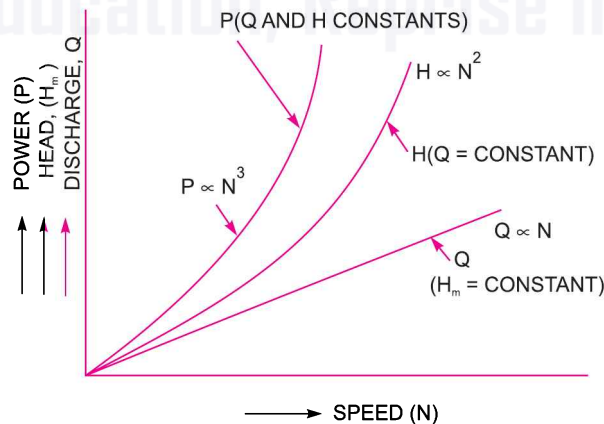

Fig. 19.14 Main characteristic curves of a pump.
**19.10.1 Main Characteristic Curves.** The main characteristic curves of a centrifugal pump consists of variation of head (manometric head,  $H_m$ ), power and discharge with respect to speed. For plotting curves of manometric head *versus* speed, discharge is kept constant. For plotting curves of discharge *versus* speed, manometric head ( $H_m$ ) is kept constant. And for plotting curves of power *versus* speed, the manometric head and discharge are kept constant. Fig. 19.14 shows main characteristic curves of a pump.
For plotting the graph of  $H_m$  versus speed ( $N$ ), the discharge is kept constant. From equation (19.19 A), it is clear that  $\sqrt{H_m}/DN$  is a constant or  $H_m \propto N^2$ . This means that head developed by a pump is proportional to  $N^2$ . Hence the curve of  $H_m$  v/s  $N$  is a parabolic curves as shown in Fig. 19.14.
From equation (19.22), it is clear that  $P/D^5N^3$  is a constant. Hence  $P \propto N^3$ . This means that the curve  $P$  v/s  $N$  is a cubic curve as shown in Fig. 19.14.
Equation (19.21), shows that  $\frac{Q}{D^3N} = \text{constant}$ . This means  $Q \propto N$  for a given pump. Hence the curve  $Q$  v/s  $N$  is a straight line as shown in Fig. 19.14.